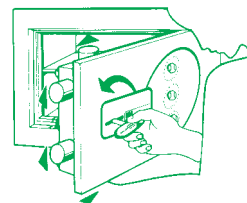

fig. 5
- Use the key to bring the bolts out of their housings (fig. 5) as if to close the safe.